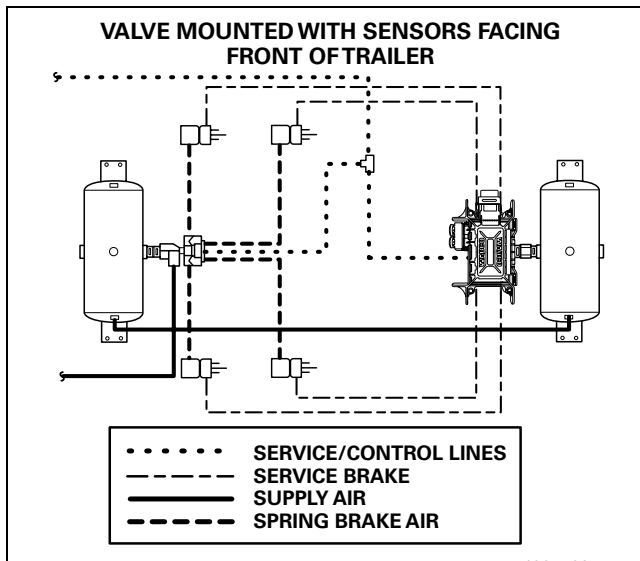
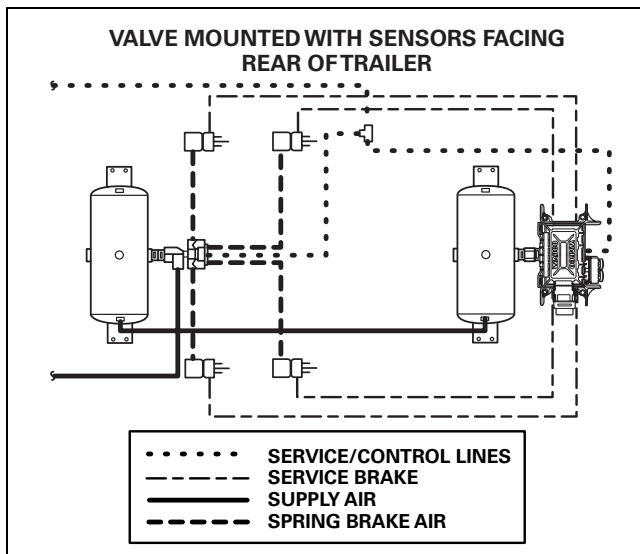

Figure 4
Figure 5
3. Connect the air delivery lines to the appropriate brake chambers (3/8-inch NPTF). Figure 4 and Figure 5.